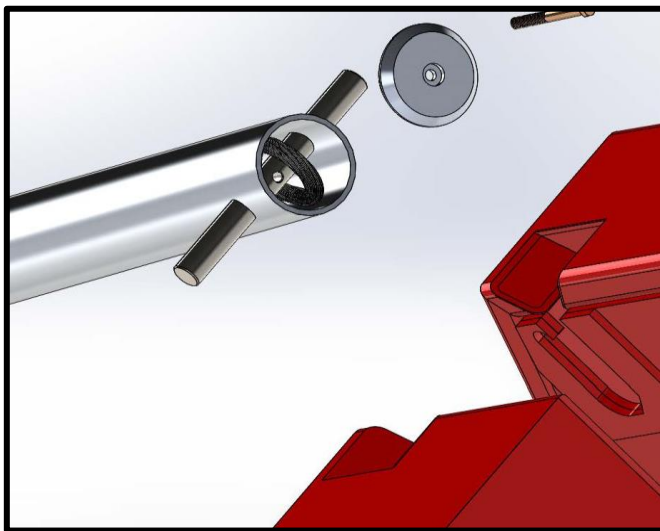

Figure 14 Aluminum Arm Alignment above Receiver
6. Rotate 1 ¼" bar so that threaded hole in center of bar is centered in the aluminum tube see figure 14
9. Make sure gate arm control and non-control cabinets are aligned to that the aluminum arm sits centered in the non-control cabinet with the end of the arm location on the receiver. See figures 14 and 15.